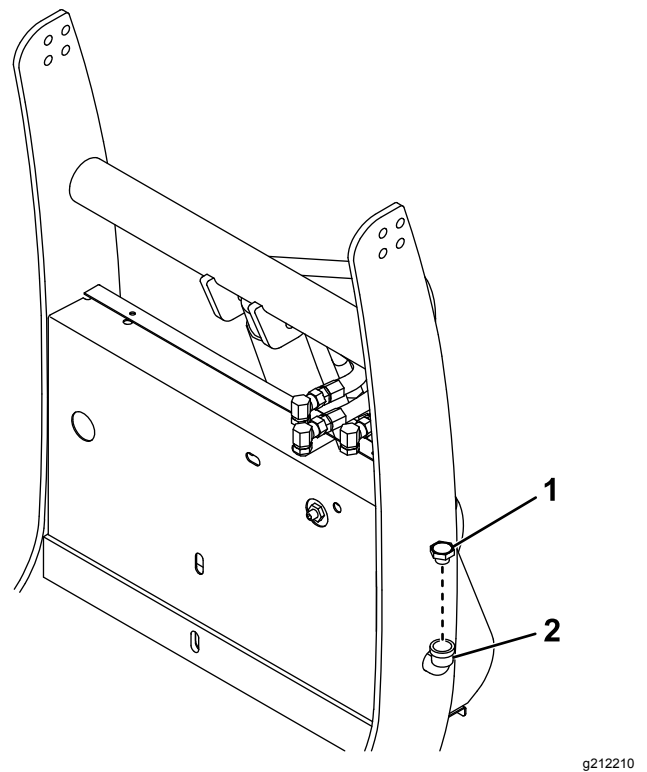

Figure 15
3. Remove the fill cap from the hydraulic reservoir (Figure 15).